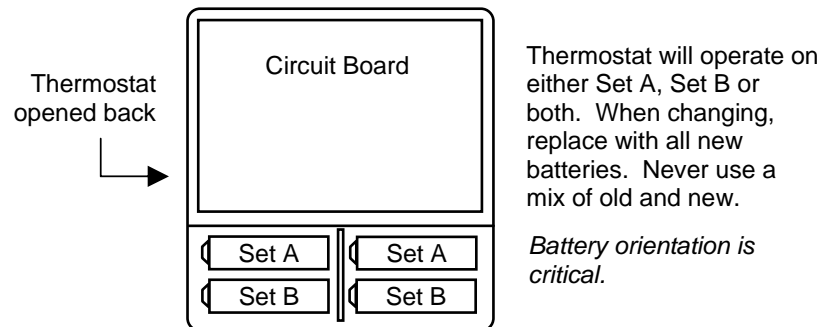

Figure 3 — Battery Location
The T9000 operates with either 2 or 4 AA batteries. Four (4) batteries double the time between battery changes (the average user can expect 1 to 1.5 years of battery life). Batteries are paired, one set on top of the other (see Figure 3).